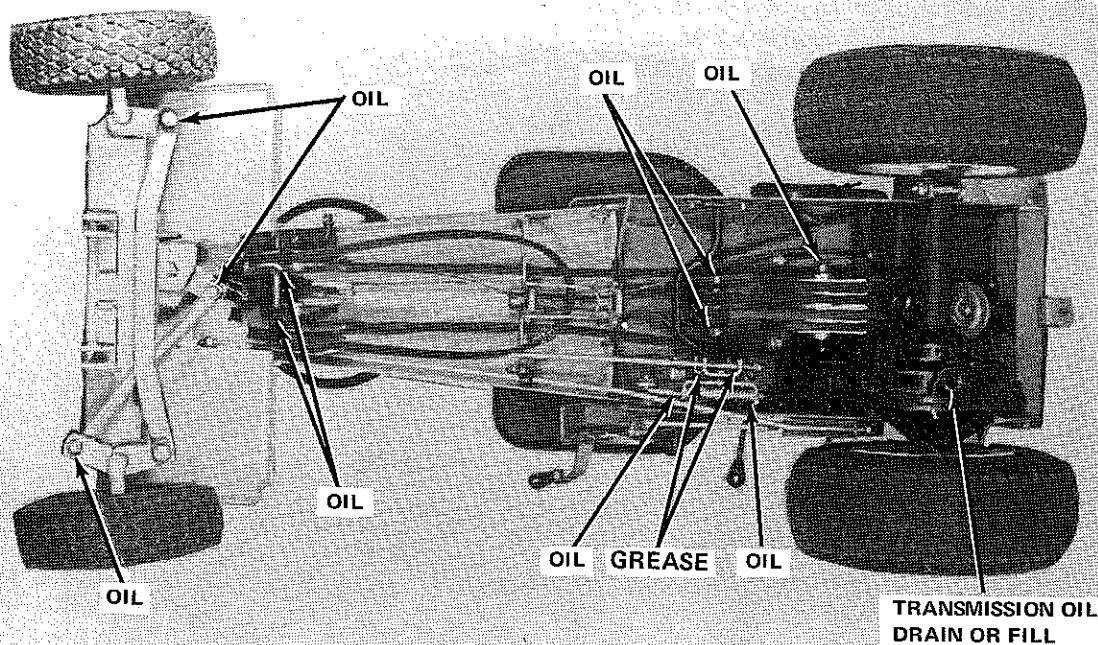
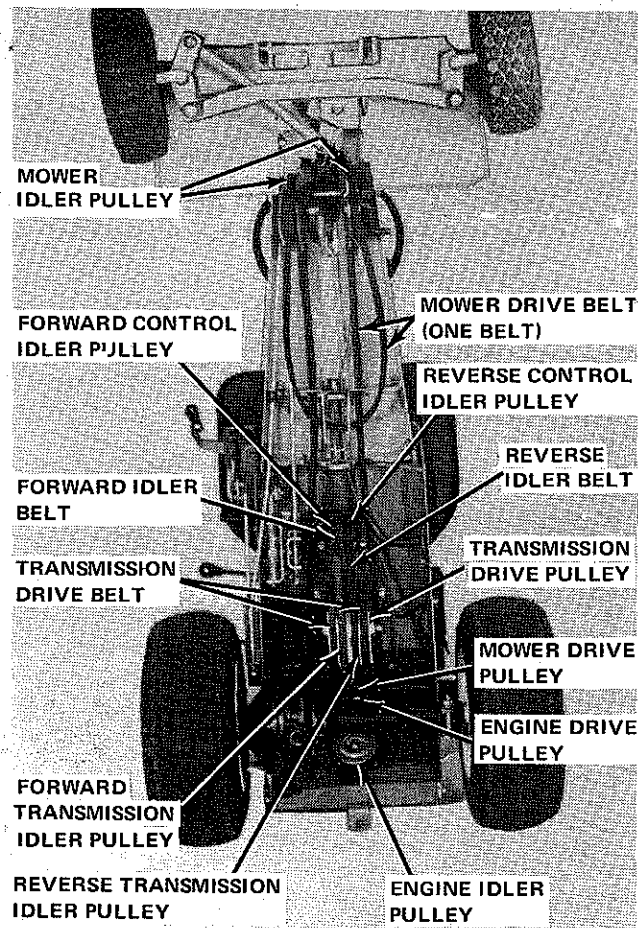
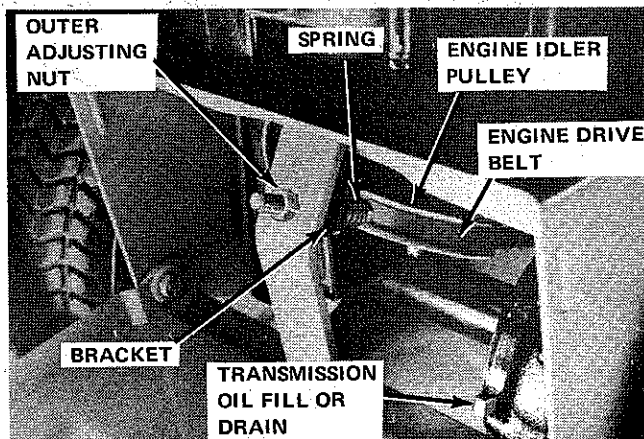

Figure 6-4. Bottom Lubrication Points
Figure 6-10. Belt and Pulley Location
Figure 6-12. Engine Idler Pulley and Drive Belt
To check level when vehicle on all four wheels, remove fill and drain plug (Figure 6-12). To check level when vehicle upright, remove fill and drain plug (Figure 6-4).
5. Place mower end of drive belt in bracket under frame. (Figure 6-4).
Refer to Figure 6-10 for location of pulleys and belts.
3. Open battery cover at rear of vehicle and pull mower drive belt from drive pulley (Figure 6-10). Slowly guide belt through vehicle and remove it through battery cover opening.
1. Open battery cover at rear of vehicle (Figure 6-12).
2. Push engine idler pulley (Figure 6-12) in against spring until engine drive belt can be slid from pulley. If spring does not allow sufficient compression to allow belt removal, loosen outer adjusting nut a few turns.
3. Disengage engine drive belt from engine drive pulley (Figure 6-10) and remove from battery cover opening.
4. Working through battery cover opening, install new transmission drive belt (Figure 6-10) on engine drive pulley. Carefully work belt over outside transmission drive pulleys and depress engine idler pulley (Figure 6-12) enough to slip new engine drive belt in place. Adjust drive belt as instructed in paragraph 5-7 of this manual.